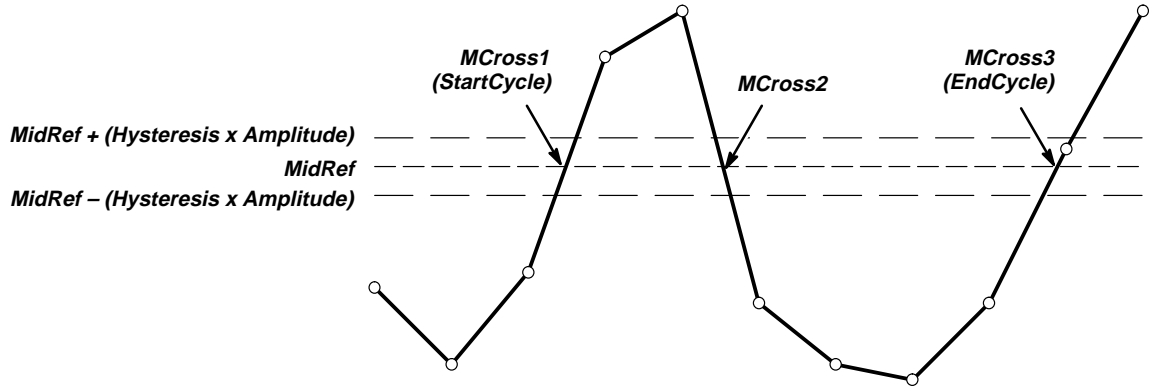

Figure A-1: MCross Calculations
**MCross1, MCross2, and MCross3**—refer to the first, second, and third *MidRef* cross times, respectively. See Figure A-1.